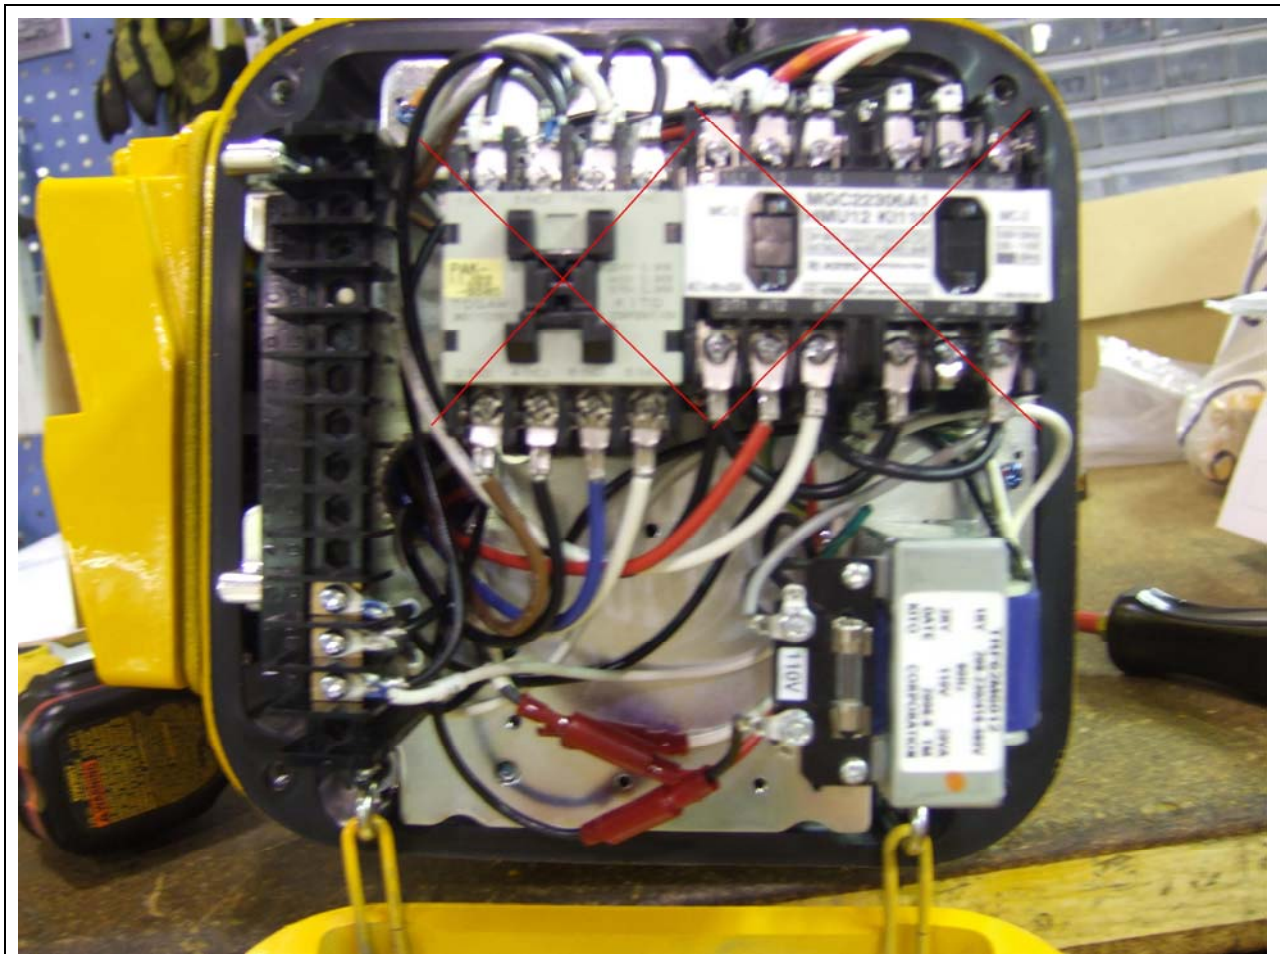
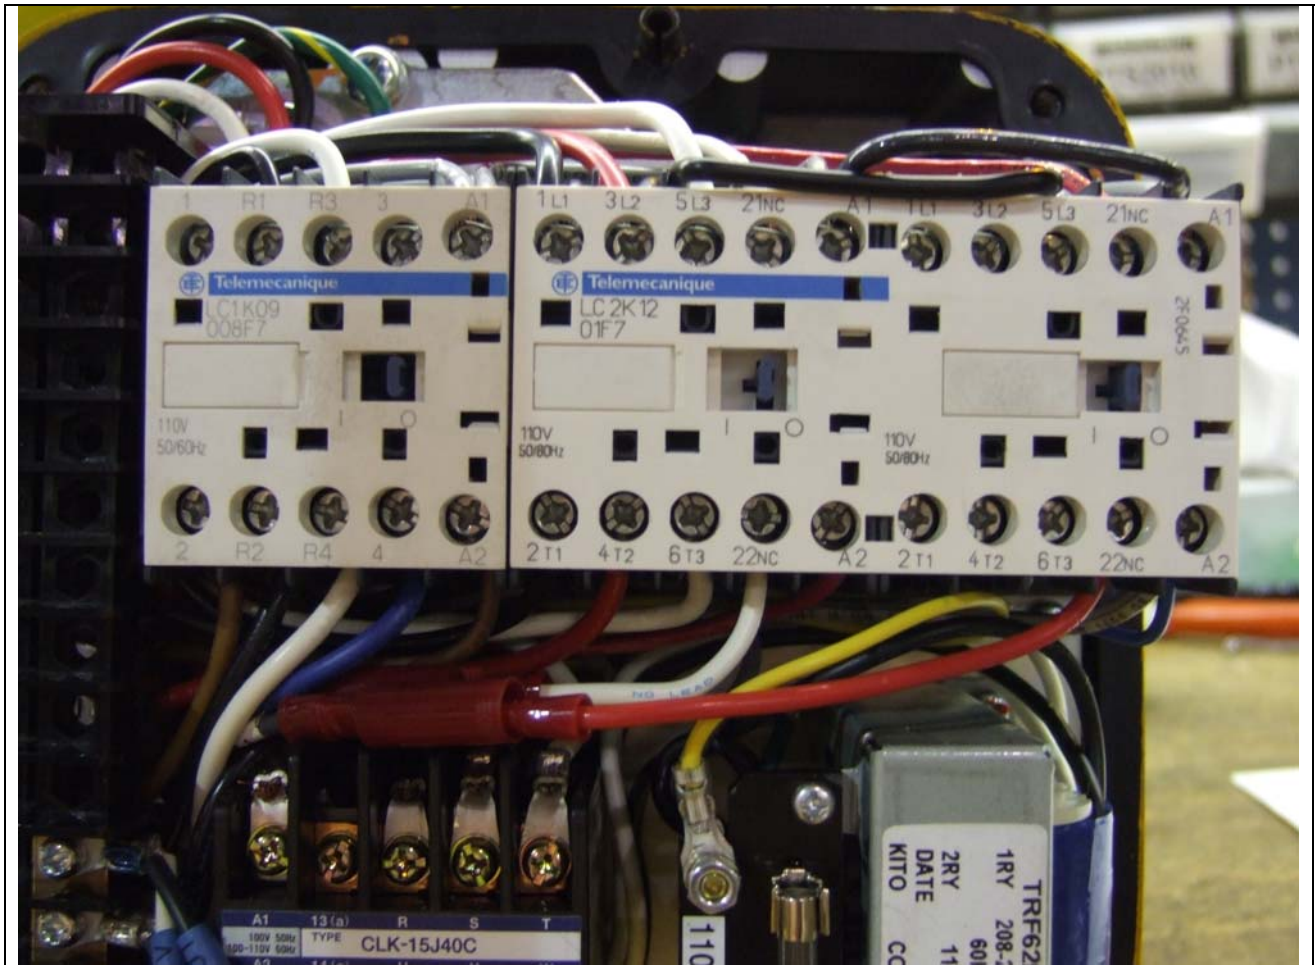
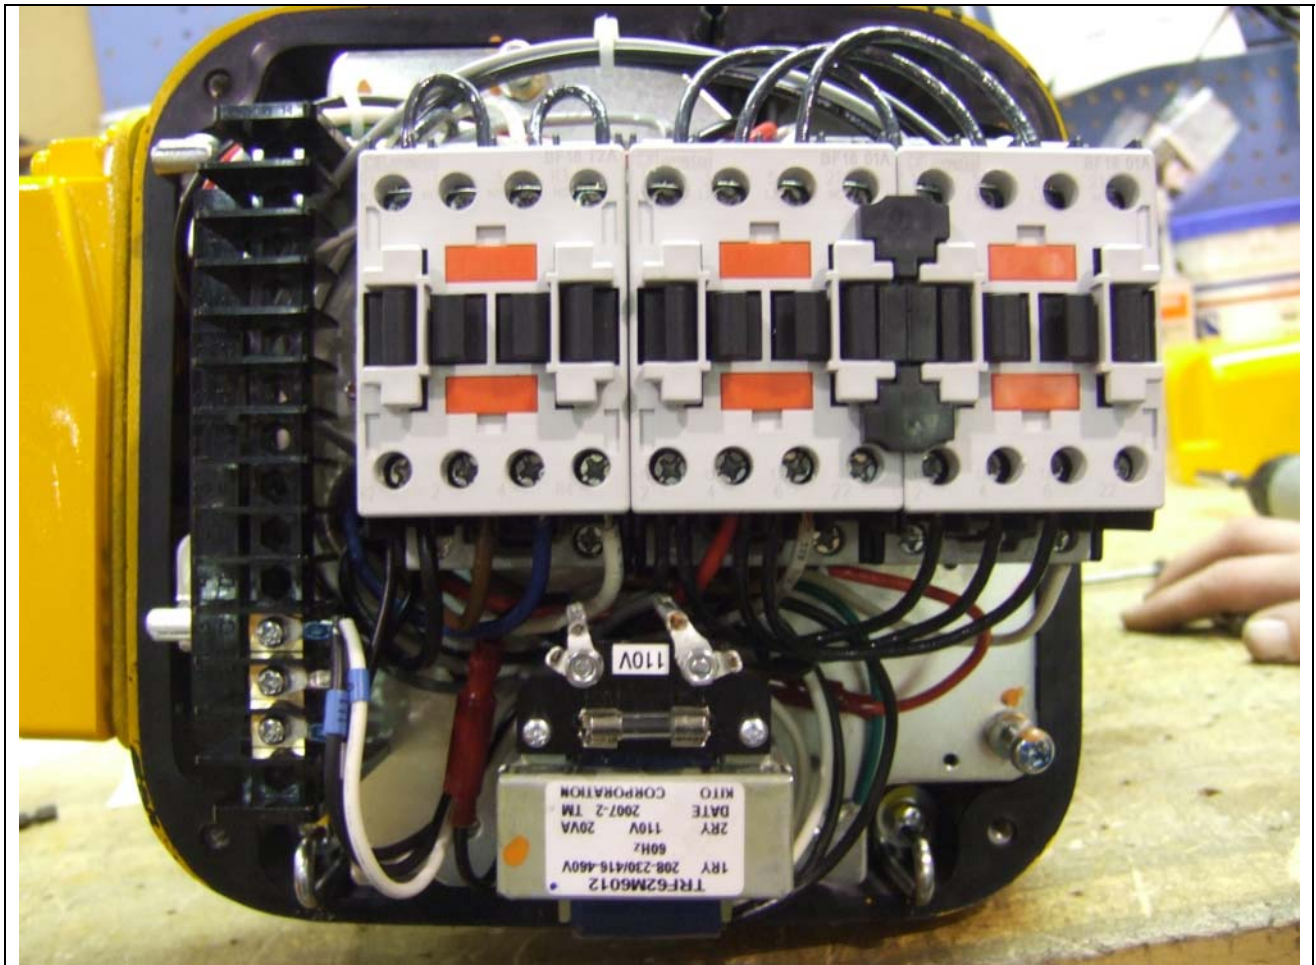

Figure 1
Figure 2
Figure 3
1. Remove both KITO "Reversing" and "Dual Speed" contactors, referencing Figure 1.
2. Using the template on drawing number 633, mark and drill three (3), holes for 8-32 self-tapping screws in the space vacated by the removed contactors.
5. Connect the wires onto the new heavy duty contactors, referencing the wiring diagram included in the packet. Be sure to include all jumpers shown in the wiring diagram. Reference Figure 2.
1. Remove both KITO "Reversing" and "Dual Speed" contactors, referencing Figure 1. Also remove the Transformer.
2. Using the template on drawing number 634, mark, drill, and tap four (4), M4 holes in the space vacated by the removed contactors.
4. After the contactors are attached to the panel, use the transformer to mark, drill, and tap three (3), M4 holes, referencing Figure 3 (you will be able to reuse 1 existing M4 hole). Reattach the transformer.
5. Connect the wires onto the new heavy duty contactors, referencing the included wiring diagram. Be sure to include all jumpers shown in the wiring diagram. Reference Figure 3.
2. Using the template on drawing number 635, mark, drill, and tap four (4), M4 holes in the space vacated by the removed contactors.